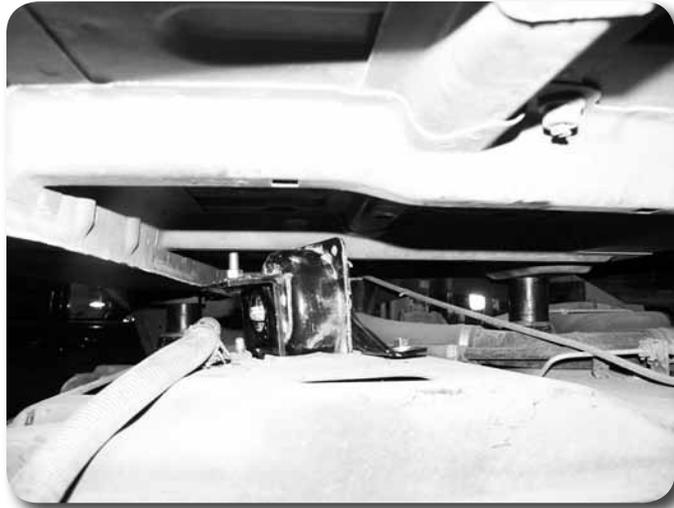

Figure 35
86. Slide new "L" shaped support bracket under the front side of tire crank. Attach bracket to the (2) new holes drilled earlier, attach with 3/8" hardware. Figure 35,36